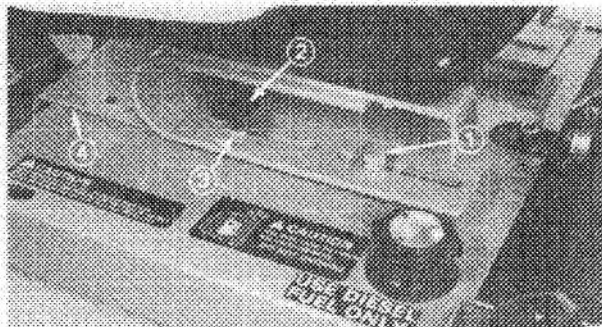

Figure 4
3. Mount seat and springs to rear holes in mount plate with (2) shoulder bolts, flatwashers and locknuts (Fig. 4).
4. Secure front slots of seat springs to mount plate with adjustment handles and flatwashers (Fig. 4).